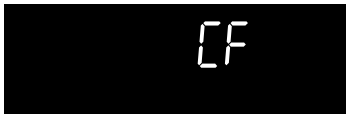

Fig. 1
- When convect convert is active with a bake time or a delay start setting, the convect convert feature will display the message "CF" for **check food** when the bake time is 75% complete (See Fig. 1). At this time the oven control will sound 1 long beep at regular intervals until the set bake time has finished.